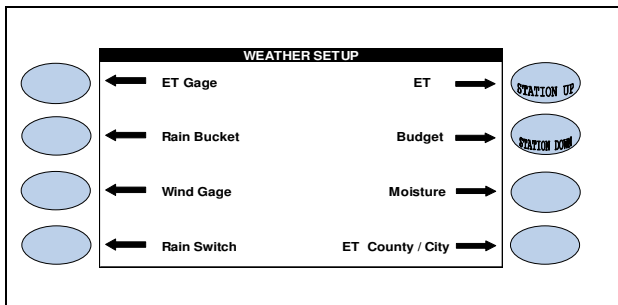

Figure 10
14. Press the **BACK** key twice to return to the WEATHER SETUP screen (Figure 10).